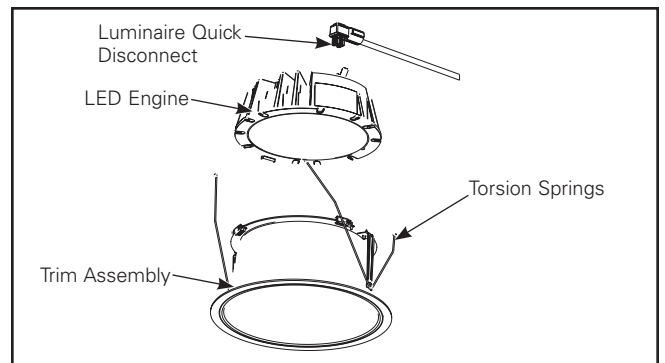

Figure 35.
1. Place end of flexible conduit through frame opening in ceiling exposing upper portion of quick disconnect (Figure 35).